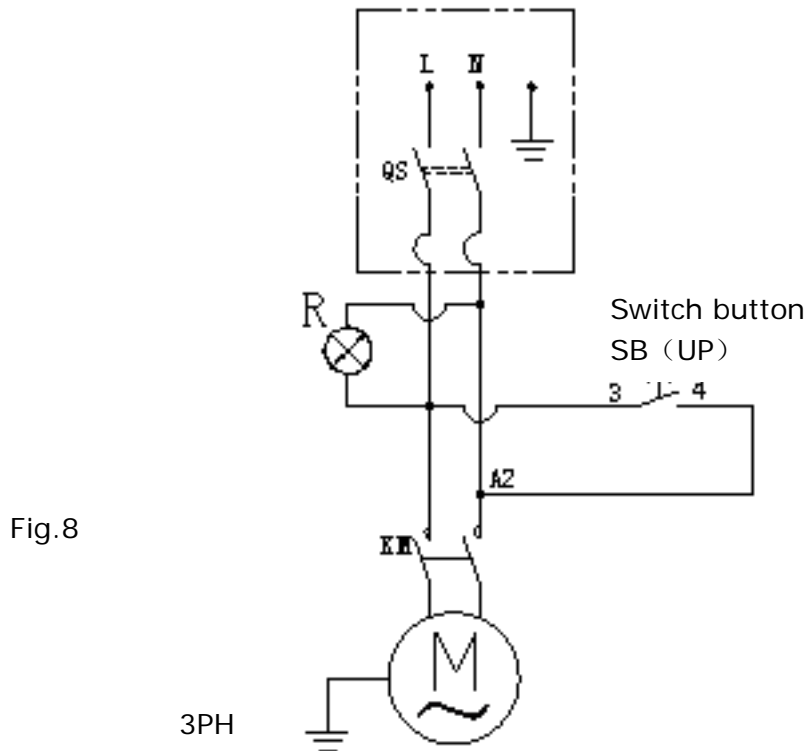

Fig.8
2.2 Schematic circuit diagram(Fig.8)